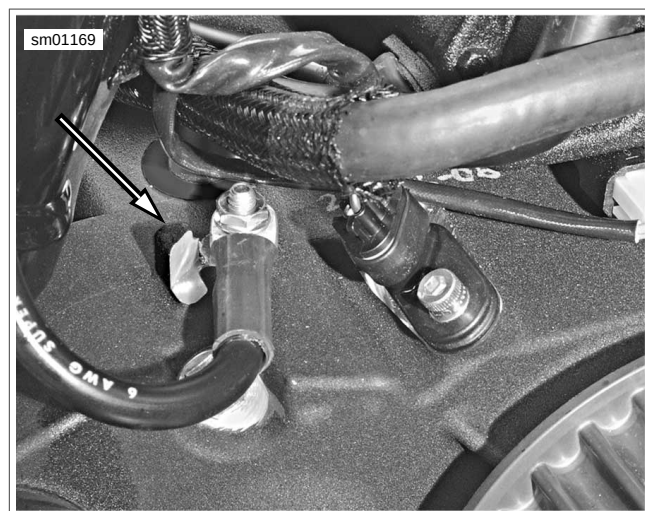

Figure 6-30. Negative Battery Cable Stop on Crankcase
13. Place negative battery cable connector onto stud on crankcase boss behind starter motor assembly (3). Thread nut (2) onto crankcase ground stud behind starter motor.
14. See Figure 6-30. Press negative battery cable connector against cable stop on crankcase and tighten nut to 55-75 **in-lbs** (6.2-8.5 Nm).